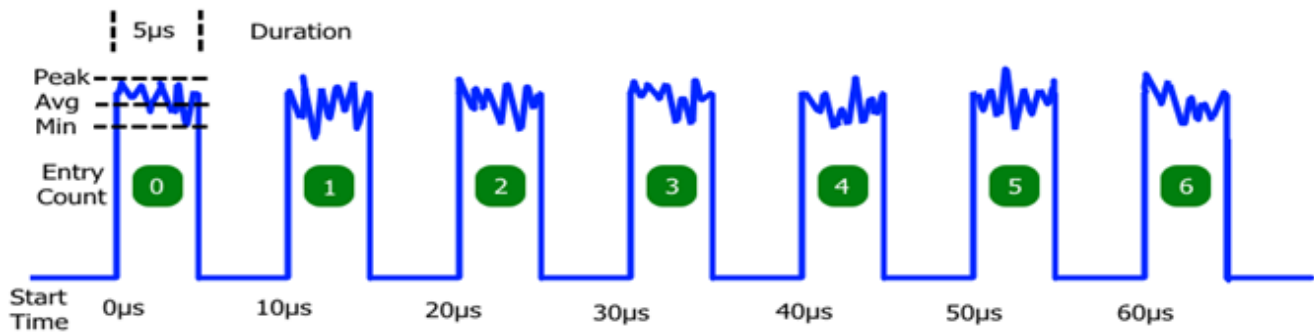

Figure 4.25 Sample burst signal showing buffer entry elements.
**Buffer Gates.** The measurement interval for each Buffer Entry is defined by a "gate" signal that controls the start and end of data acquisition for that entry. At the start of each gate interval, a fresh acquisition interval is initiated, and at the end of the gate, the acquisition interval is concluded and the result (the "buffer entry"), as shown in Figure 4.25, is written to memory. The gate signal may be internally or externally generated in several different ways - see "Gating Modes" section below.